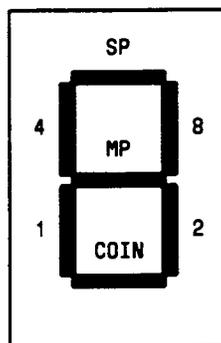

Figure 15 — XCU 7-Segment Test Result Code Display
2.28 The test result code is displayed on the 7-segment LED display shown in Figure 15. For the PGTC mode, each segment has a specific function. The horizontal segments indicate the type of test: